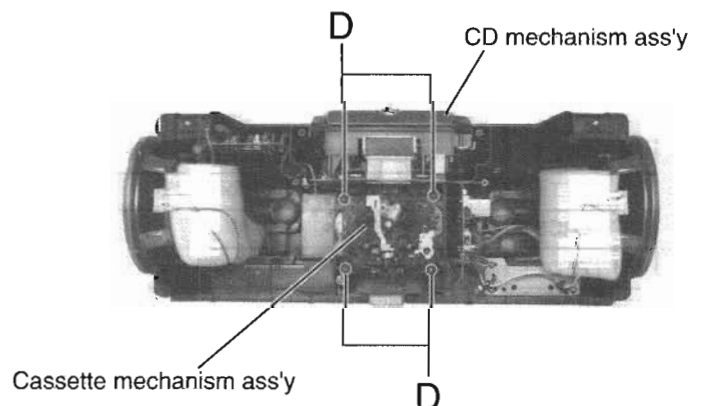

Fig.4
■ Cassette mechanism removal (See Fig.4)
3. Remove the 4 screws D of rear side holding the cassette mechanism ass'y. (See Fig.4)